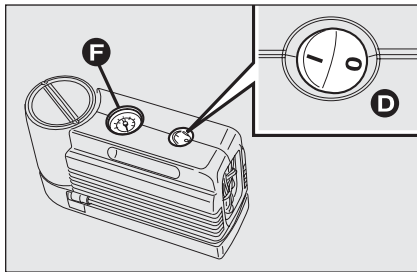
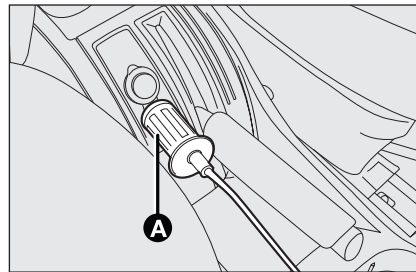

fig. 6
fig. 7
- ❑ make sure that the switch **D**-fig. 6 of the compressor is in position **0** (off), start the engine, insert plug **A**-fig. 7 into the cigar lighter (or 12V socket) and operate the compressor by taking the switch **D** to position **I** (on). Inflate the tyre to the pressure specified in the “Inflation pressure” paragraph, “Technical Specifications” chapter.